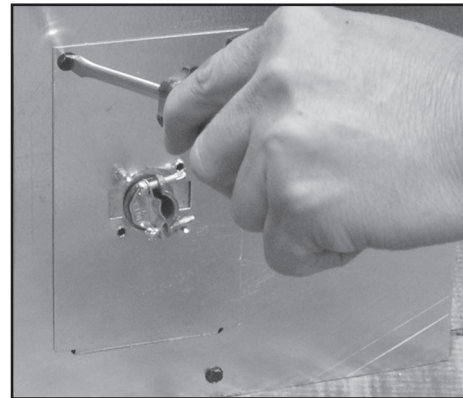

Figure 3
1. Remove (2) J-Box retaining screws. (*See Figure 3*)